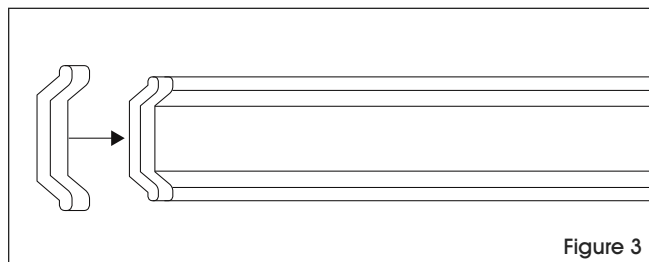

Figure 3
3. Install the end caps on the aluminum rail by snapping them firmly into each end. (See Figure 3)